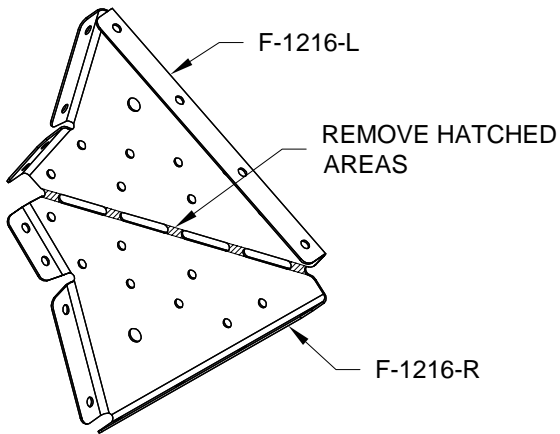

FIGURE 2: SEPARATING THE F-1216
Step 2: Separate the two F-1216 per Figure 2 by removing the hatched areas.